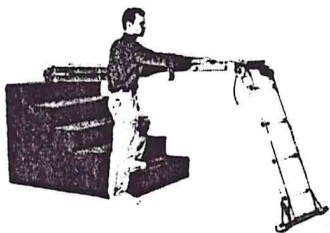

FIGURE 3.
4) Position scaffold on stairwell as shown in figure 3.